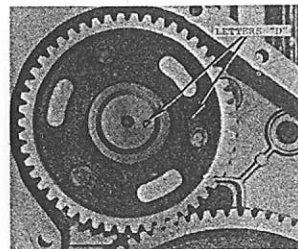

Fig. 71—Camshaft gear is correctly installed on three cylinder engine when stamped "D's" are aligned as shown.
72. CAMSHAFT GEAR. On three cylinder models, camshaft gear is retained by three equally spaced cap screws. To permit installation of the gear for proper engine timing, a letter "D" is stamped on camshaft hub and face of gear as shown in Fig. 71. Align